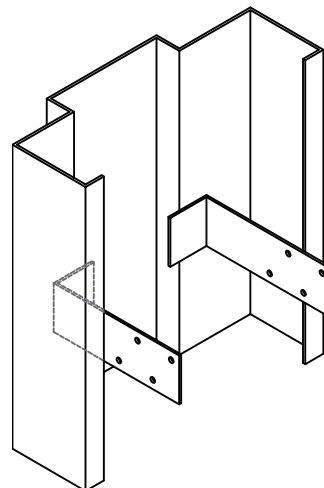
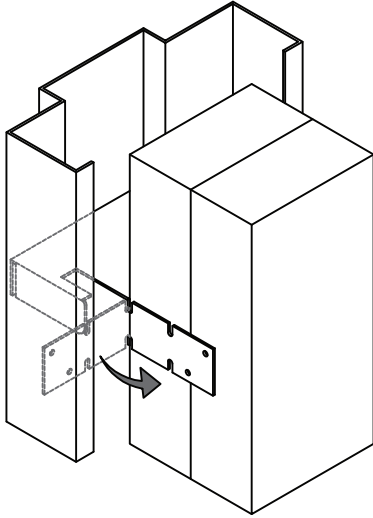

Figure 26 – Weld in strap anchors wood/steel studs
Figure 27 – Snap or weld in anchors wood/steel studs
10.5 Bend anchor straps around stud leaving sufficient clearance between frame return and stud for inserting finished wall material (see Figure 26 and Figure 27).